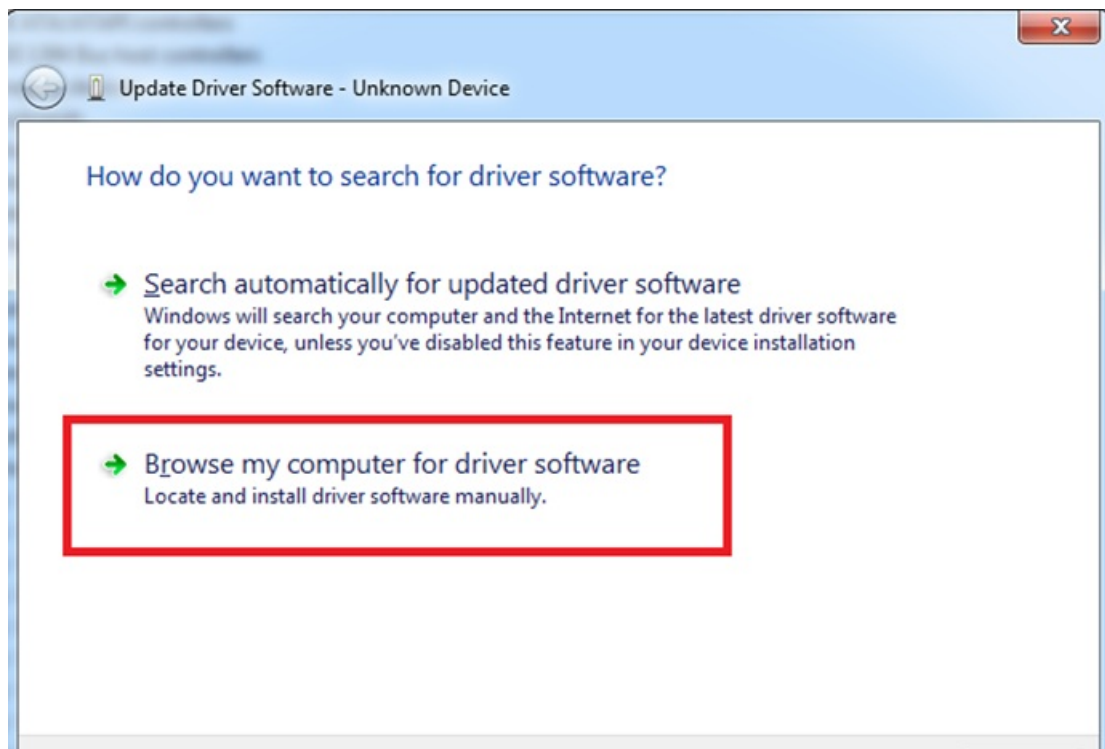

Fig. 7.2. Device driver software update message
- Press “Update driver software”; the screen as in Fig. 7.2. should appear: